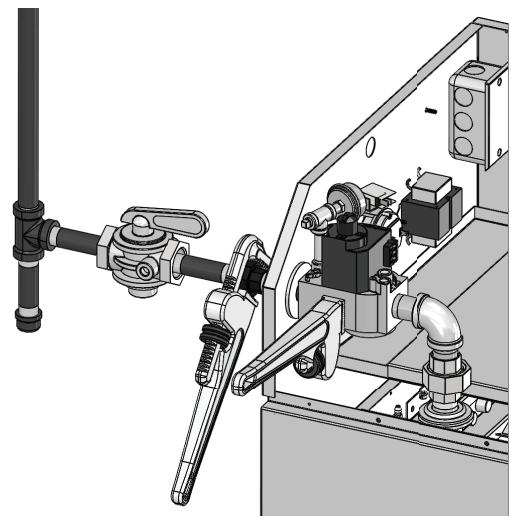

**Figure 6-1** Gas Line Connection to unit w/sediment trap and manual main gas shut-off valve
5. Install a sediment trap (drip leg) in the supply line to the pool heater's gas inlet (see FIG. 6-1).